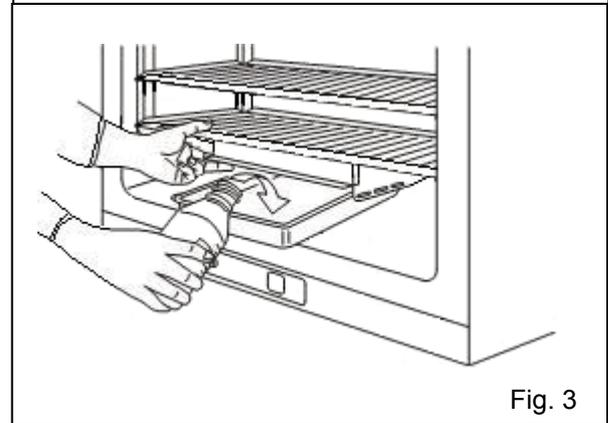

Fig. 3
4. Pull out the humidifying pan. (Fig. 3)
4. To install the side support, confirm the direction of fixing holes as shown in Fig. 3.
5. Return the humidifying pan to the chamber and add sterile distilled water (approx. 1.5 L, preheated to 37 °C). (Fig. 3)